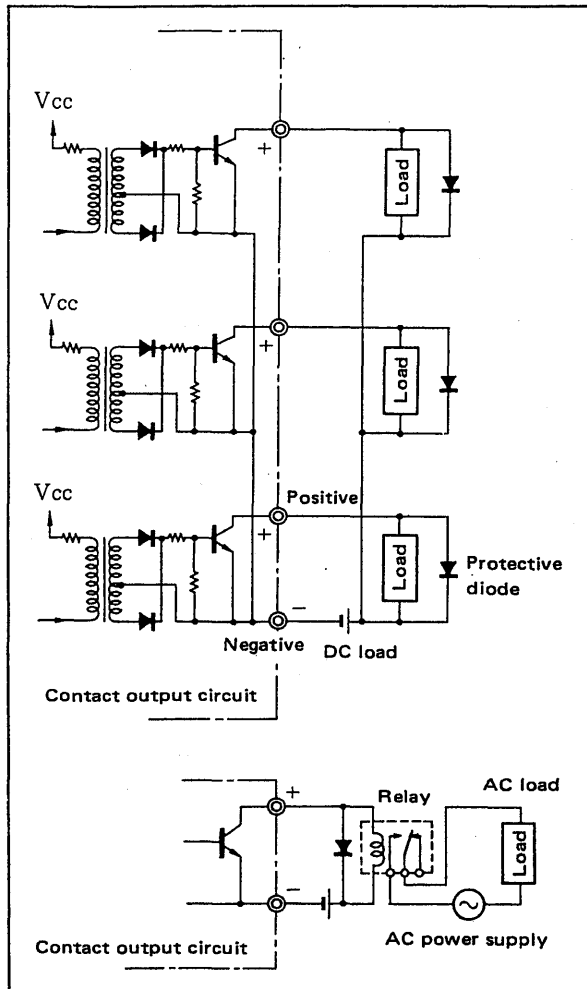

Figure 3-1-3. Connection of Contact Outputs.
- (1) Be sure to terminate all cable connections in solderless crimp-on lugs.
- (2) Each status and voltage input must be as per SBSB specifications. Note the limits on conductor resistance, voltage drop in conductors, and voltage (high/low) levels.
- (3) The fail and digital outputs are transistor contact signals (isolated from power supply and other internal circuitry). When connecting external devices, pay attention to the following: (See Figure 3-1-3.)
- When connecting a relay or other such inductive device, connect a surge absorber (protective diode — Figure 3-1-3, CR circuit, etc.) in parallel with the load.
- (4) Use shielded twisted-pair SCCD cable for communication lines (terminals 17, 18).